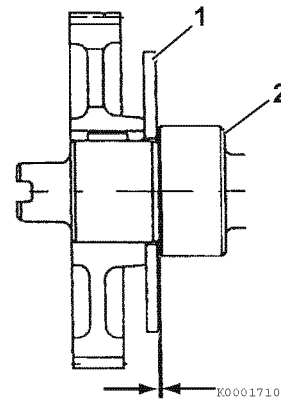

Figure 6-96
- **Method B:** Use a feeler gauge to measure the clearance between the thrust plate (Figure 6-96, (1)) and front camshaft bearing (Figure 6-96, (2)). See Thrust Bearing on page 6-12 for the service limit.